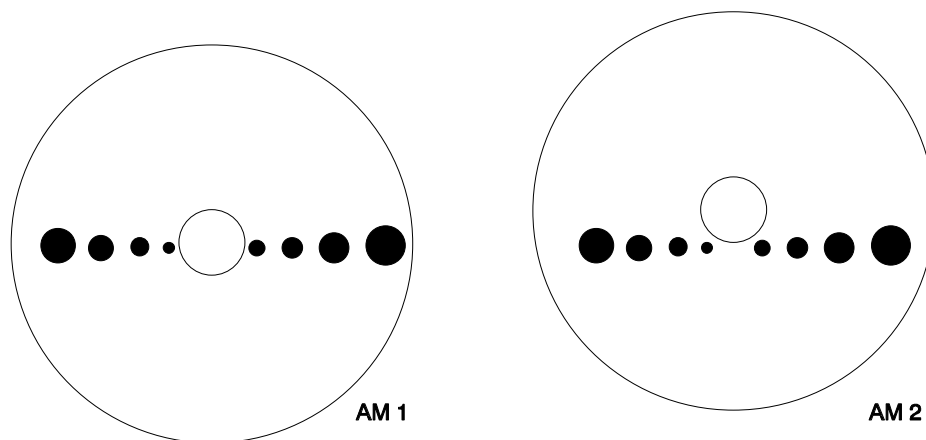

Figure 9. Radiation pattern on mirrors AM1 and AM2
10. With IR viewer watch six (eight) beam spots on mirrors AM1 and AM2 (Figure 9).